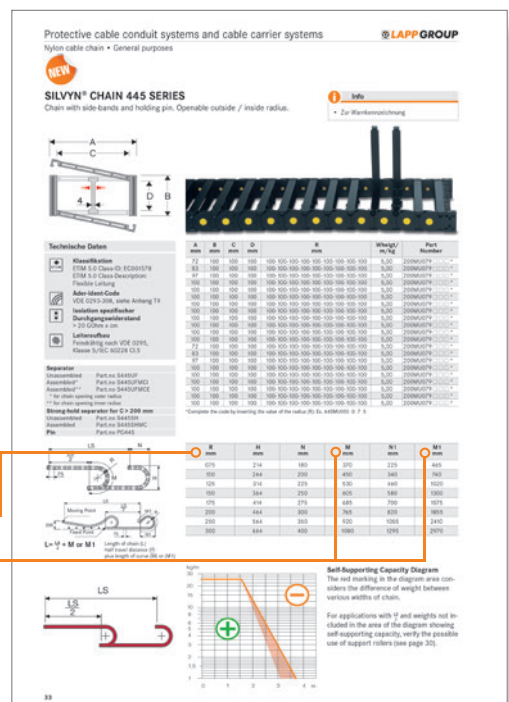

Fig. 1
- M → value in catalogue table (Fig. 1). M is determined under point 4, bending radius definition